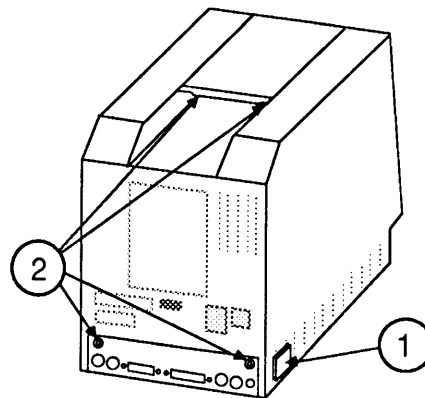

FIGURE 3
4. Reinstall the four case screws (Figure 3, #2).
5. Reinstall the reset/interrupt switch (Figure 3, #1).